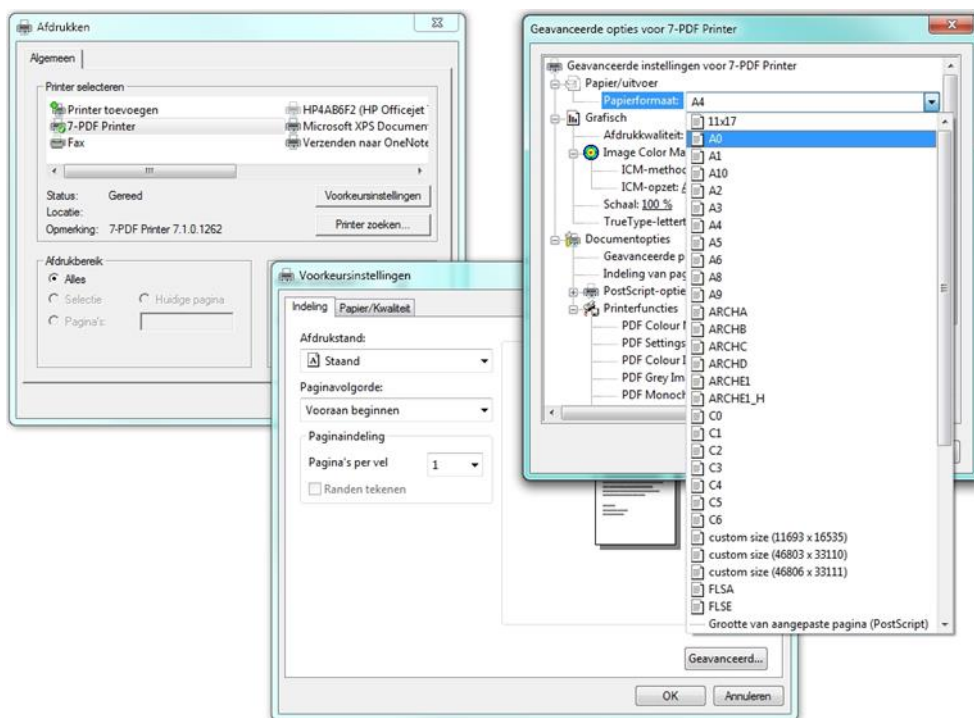

Figure 4.2.3
6. If necessary, click [Settings] to set the correct paper size and orientation, as depicted in figure 4.2.3.